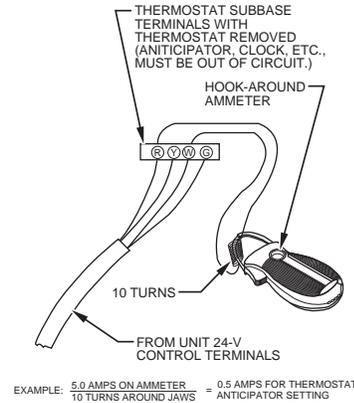

Fig. 46 – Amp. Draw Check with Ammeter
- (2.) Connect an amp. meter as shown in Fig. 46 across the R and W subbase terminals or R and W wires at wall.